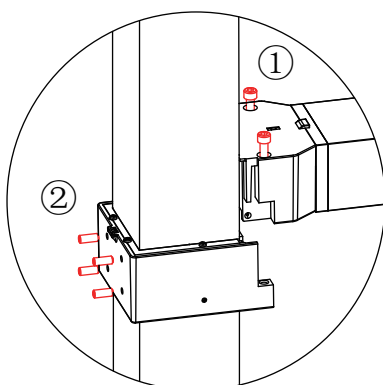

Fig. 3
**Step 3:** Take two M8×55 hex socket head cap screws from the universal screw kit and tighten the mounting base and fastening bracket. Then, take four M8×16 set screws from the square pole screw kit to secure the fastening bracket onto the square pole. See fig.3